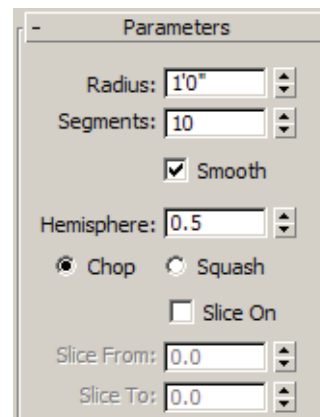

Figure 3-15
5. In the *Create* tab () , click  (Geometry). In the drop-down list, select **Standard Primitives** as a sub-category. In the Object Type rollout, click  to create the fixture's globe. Click and drag anywhere on the screen to size a sphere of approximately **1'0"** in radius. Select the *Modify* tab () and assign the parameters, as shown in Figure 3-15. Note the effects that each of them has on the model, specifically the **Hemisphere** and **Smooth** values.